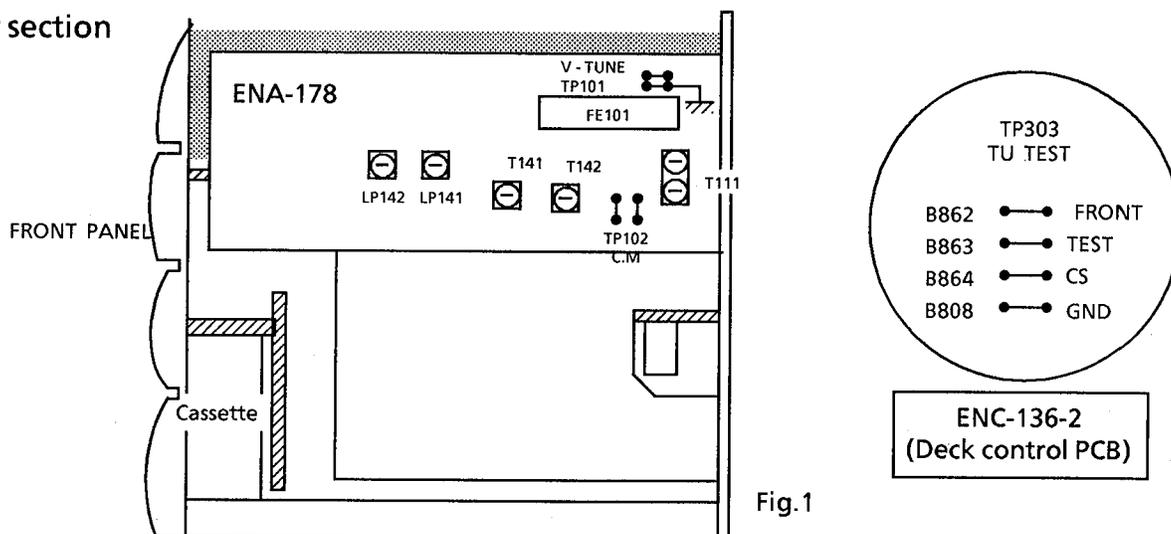

Fig.1
### (2) Life of the laser diode (Fig.1)
(Fig. 1)